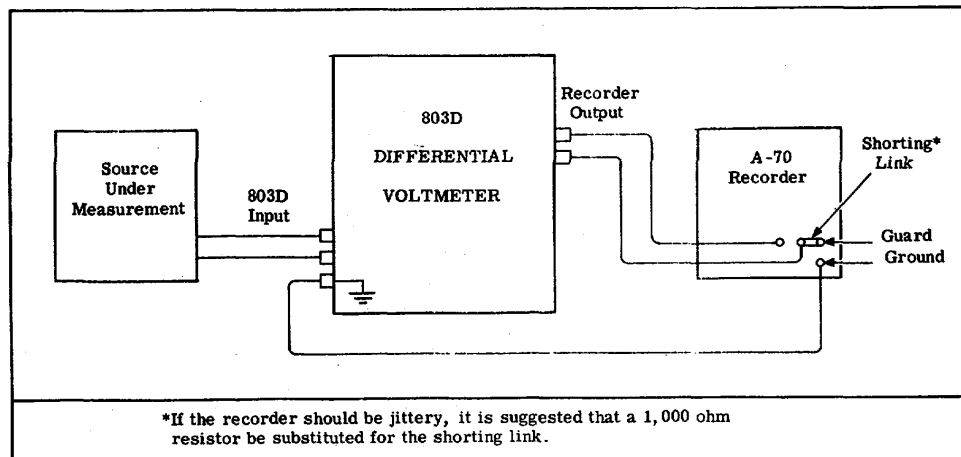

Figure 2-5. RECORDER RECOMMENDED CONNECTION DIAGRAM
a. Connect A-70 recorder to 803D voltmeter with teflon leads as shown in figure 2-5.
(1) Connect a DC voltage to the input of the 803D and differentially measure its potential in a recommended null range.
(2) Alternately connect and disconnect the recorder leads from the output terminals of the 803D while noting the meter needle deflection. More than one-quarter of a small scale division deflection indicates that excessive leakage has been introduced by the recorder. This will impair the accuracy of the 803D voltmeter.
(3) Disconnect the voltage.